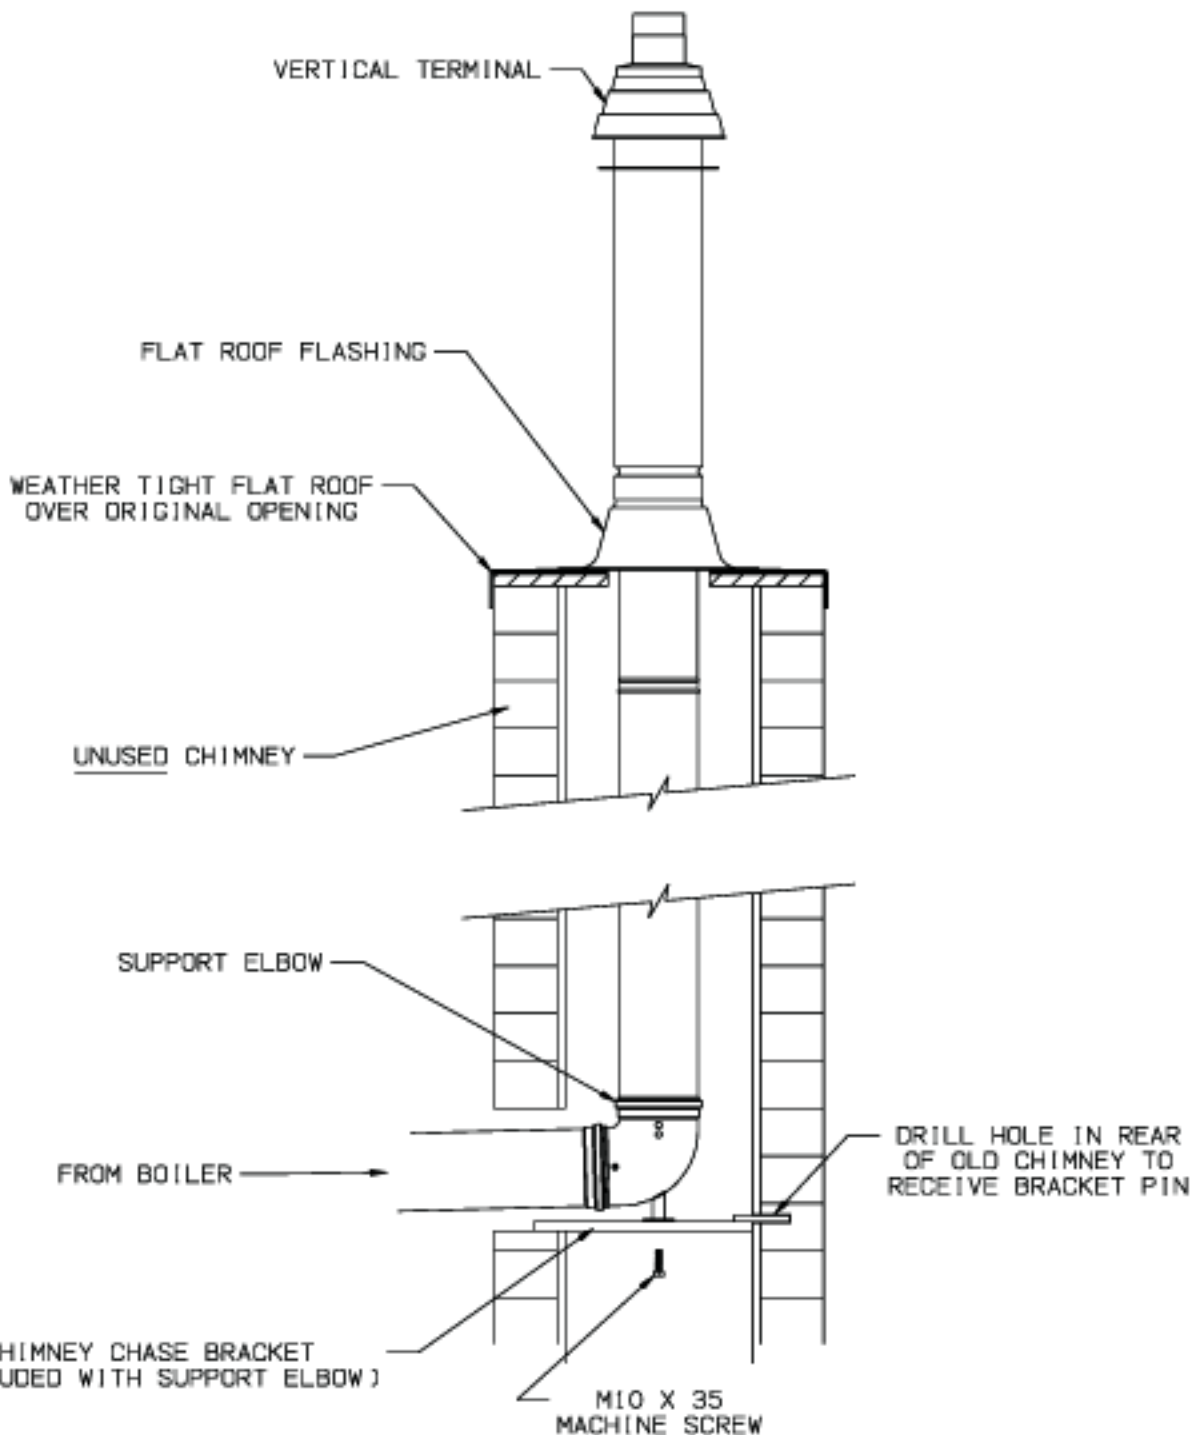

FIGURE 6.22: CHIMNEY CHASE INSTALLATION
- 7) **Chimney Chase Installation** - A vertical vent system can be installed in an unused masonry chimney. This installation is similar to other vertical installations with the following exceptions (Also see Figure 6.22):